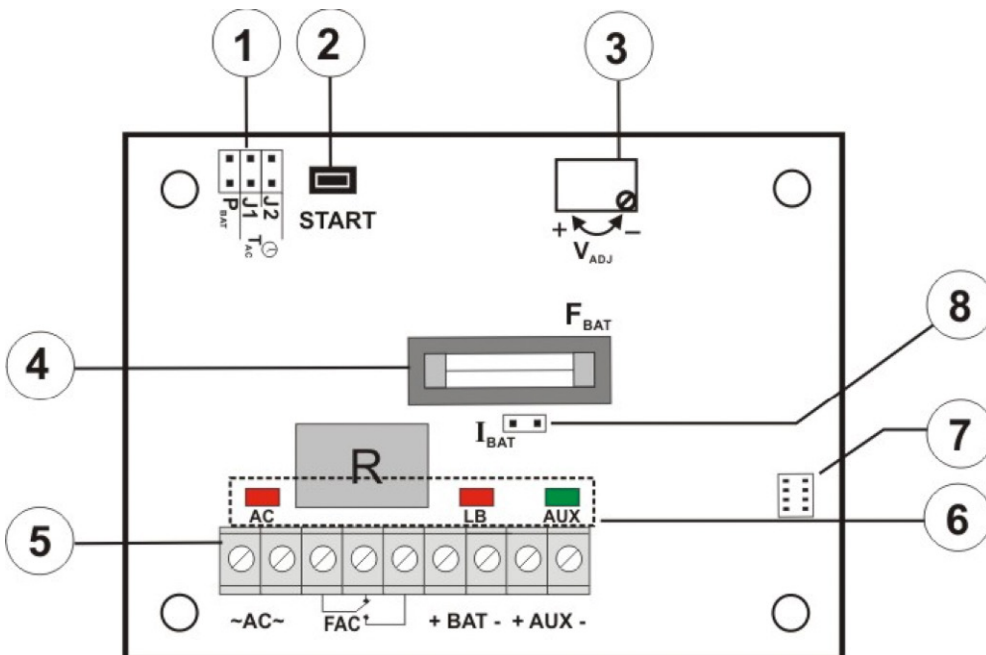

Fig. 2. View of the power supply pcb
| ⑤        | <p>Connectors:</p> <p>+BAT- DC supply output of the battery(+BAT= red, -BAT=black)</p> <p>+AUX- DC supply output(+AUX= +U, -AUX=GND)</p> <p>FAC - AC absence technical output – relay assisted</p> <p>Caution! In Fig.2. the set of contacts indicates potential-free status which corresponds to AC power failure.</p>  |
| ②        | Power upply unit board (tab. 1, fig. 2)   |